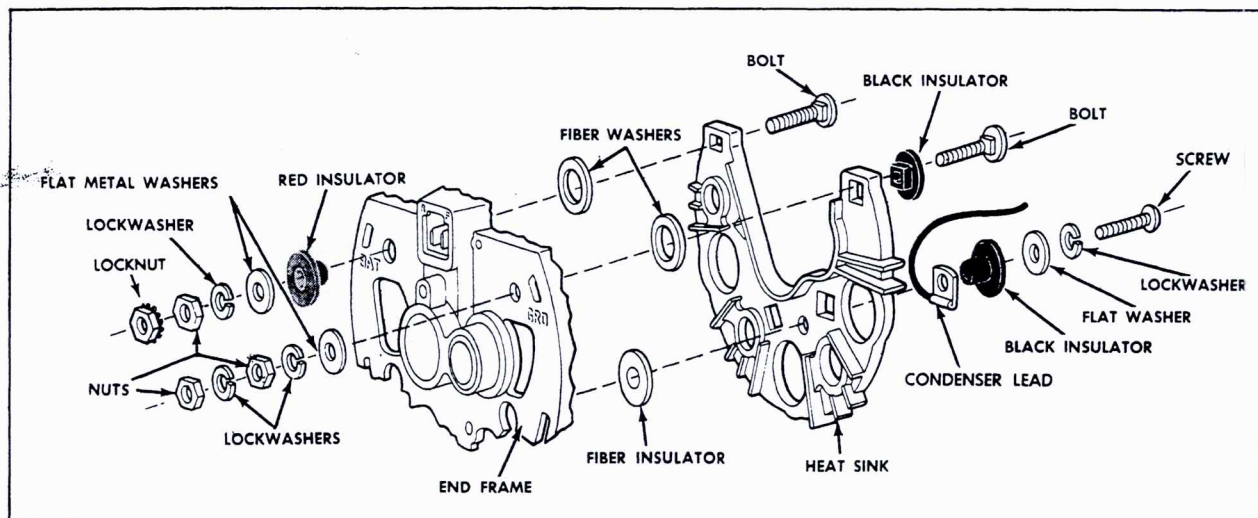

Fig. 6-26 Heat Sink Disassembled
2. If necessary, replace heat sink by removing two terminal bolts and capacitor lead retaining screw. Carefully note arrangement of parts so that BAT and GRD terminals are replaced in the same order, Fig. 6-26.
5. Reassemble capacitor lead to heat sink carefully noting arrangement of parts, Fig. 6-26 and secure lead to heat sink with attaching screw.